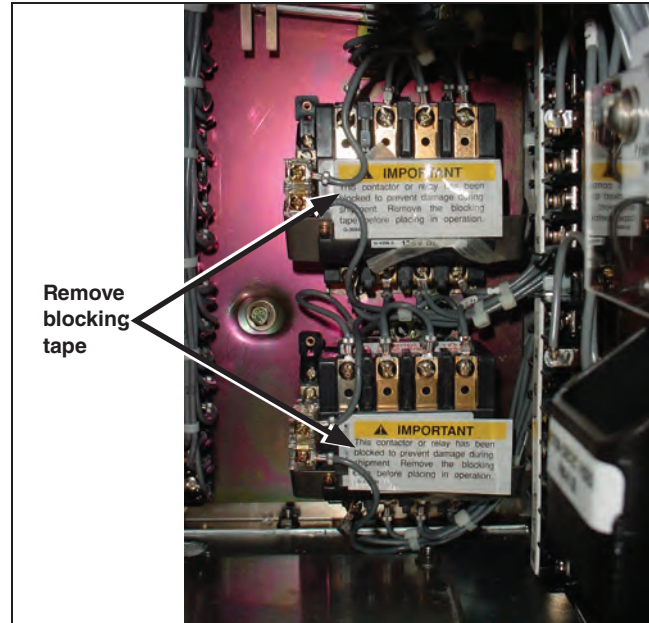

Figure 48. Remove the blocking tape from the motor contactors.
**STEP 3.** Remove the labels and blocking tape from the motor contactors. See Figure 48.